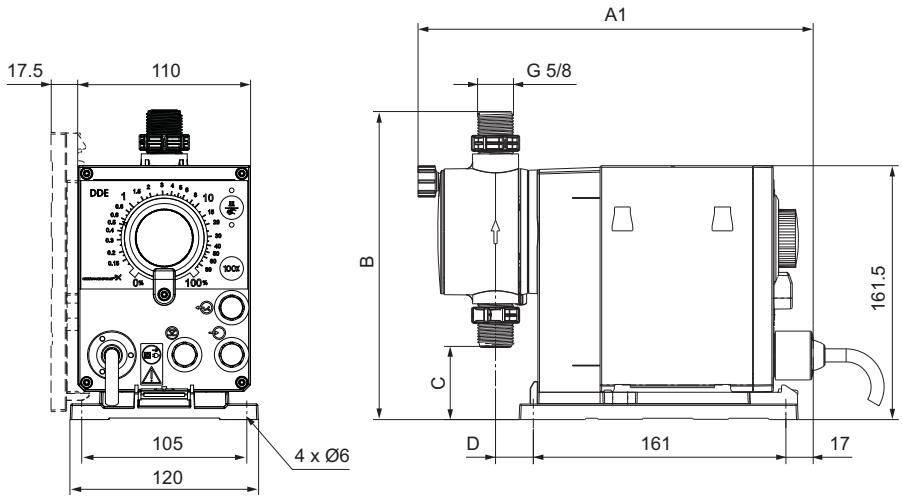

Fig. 3 Dimensional sketch
- The mounting plate can be used as a drill template, please see fig. 3 for drill hole distances.